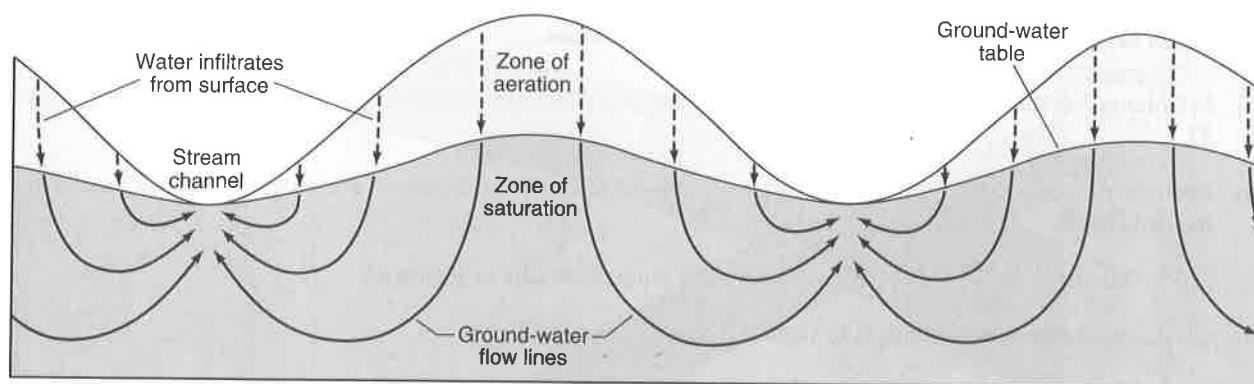

Figure 66. Ground-water flow in a homogenous body of sand.
Within a few hundred meters of the surface, most Earth materials have some porosity and contain some groundwater. Usually we find a zone, immediately below the surface, that may contain some moisture but that is far from being saturated with water (Figure 66). This is called the **zone of aeration** and through it water moves downward to a zone that is completely saturated with water, the **zone of saturation**. The contact between the zone of saturation and the zone of aeration is called the **ground-water table**, or simply the **water table**, and can be seen as the level to which water rises in a well. It is the saturated zone that provides water to wells, provided the porosity and permeability are favorable.
Figure 66 is an idealized diagram of the flow of water through a homogeneous, unconsolidated sand with good permeability. Water filtering from the surface into the underground has completely saturated the pores in the sand until a hill of groundwater has built up beneath the high spots in the landscape. The top of this saturated zone is the groundwater table. Figure 66 shows groundwater flowing to stream channels. A **ground-water divide** separates the water flowing to channels in adjacent valleys. Beneath the surface, ground-water flows. Although water added to the groundwater at the high will flow to the outlet (the stream channel), it does not follow a straight-line path. Rather, it moves in a broad looping path, flowing first downward and then upward toward the stream channel.
- i. In Figure 66, what is the relationship of the water table to surface topography?
- iii. Label on Figure 66 two ground-water divides.
Determining the velocity of ground-water movement is difficult because ground water moves very slowly compared with surface flow, because it lies hidden from view beneath the surface, and because the actual flow paths are curved (Figure 66). It can be important, however, to know the velocity of ground-water flow. For instance, if the ground water becomes polluted at one place, it is useful to know how long it will take the polluted water to reach another area down-flow from the point of pollution. We deal with an example in the question set that follows.
- ii. What is the apparent speed of the ground water, in meters per day, between the injection well and well C? This is called the apparent speed, since water travels on curved paths as shown in Figure 66 and not straight-line paths as we might calculate it here. In addition to time elapsed, you need to know how far it is between the injection well and well C.